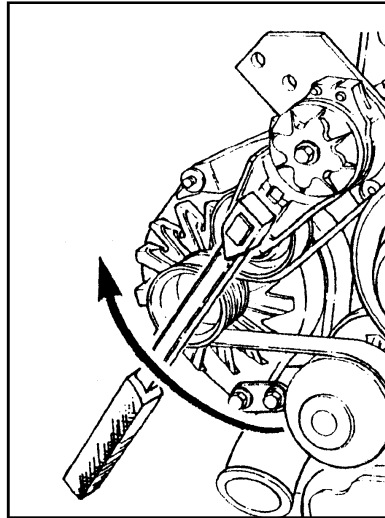
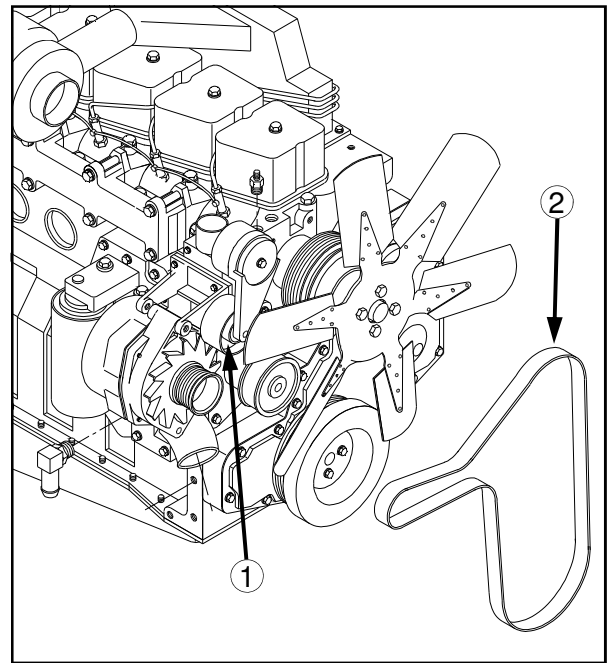

FIG 96-1
FIG 96-2
REMOVAL– Insert a 1/2 inch square ratchet drive (fig. 96-1) into the belt tensioner (fig. 96-2, item 1) and lift upward to remove the belt (fig. 96-2, item 2).